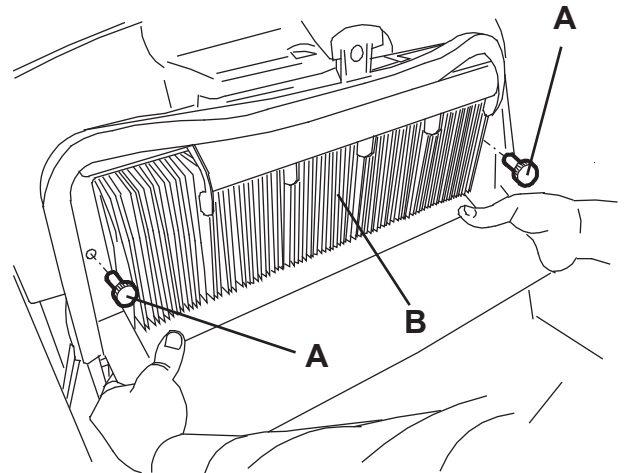
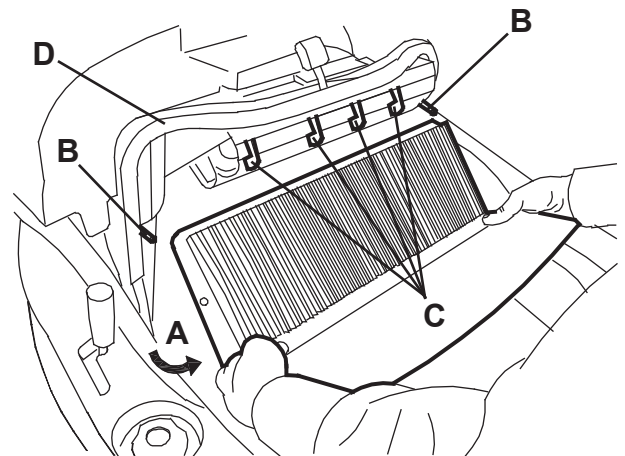

Figure 8
Figure 9
2. Turn the main switch (1) to "0".
3. Remove the hopper (9).
4. Loosen the knobs (A, Fig. 8).
5. Grasp the dust filter (B) as shown in the figure.
6. Remove the dust filter by turning it in the direction shown by the arrow (A, Fig. 9) to disengage it from the pins (B), then lower the filter to disengage it from the filter shaker combs (C).
8. In an appropriate outdoor area, clean the filter by shaking it on a level and clean surface, tapping the side (D) opposite to the gasket (E).
- Complete the cleaning procedure by using compressed air (F) at maximum 6 Bar, blowing only from the side of the gasket (E), at a minimum distance of 30 cm.
9. Clean the bearing surface of the filter rubber gasket (E) and check it for integrity and sealing capabilities. If necessary, replace the filter.
10. Clean the bearing surface of the hopper gasket (D, Fig. 9) and check it for integrity and sealing capabilities. If necessary, replace it.